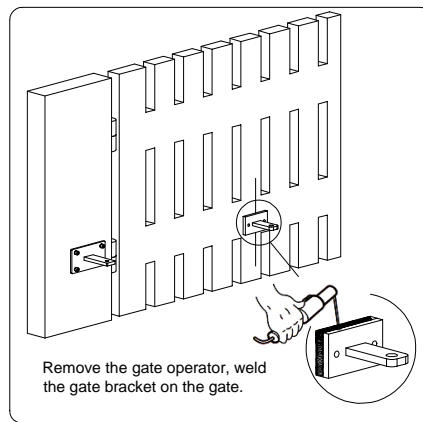

Fig.13
- After you have identified the desired position of the bracket, remove the gate operator and permanently weld the gate bracket top, bottom and sides. See Fig.13.